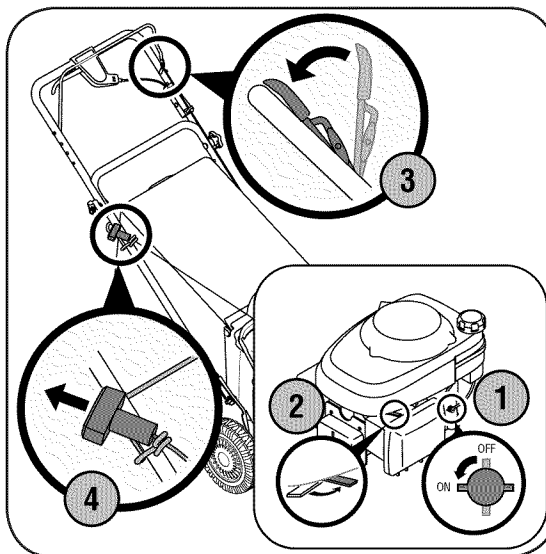

Figure 4-2: The steps involved in starting the mower.
1. Place the fuel valve lever found on the left side of the engine into the ON (OPEN) position, Figure 4-2.
2. Move the choke lever all the way backward into the choke position, Figure 4-2.
3. Standing behind the mower, squeeze the blade control against upper handle, Figure 4-2. The choke will now begin to slowly return to the off choke position after activating the blade control. Therefore, quickly move onto step four below. Refer to the engine manual for further details.
4. Holding these two handles together firmly, grasp recoil starter handle and pull rope out with a rapid, continuous, full arm stroke, Figure 4-2. Keeping a firm grip on the starter handle let the rope rewind slowly. Repeat until engine cranks. Let the rope rewind each time slowly.